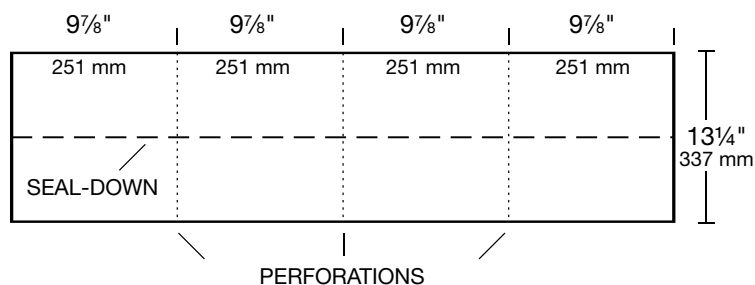
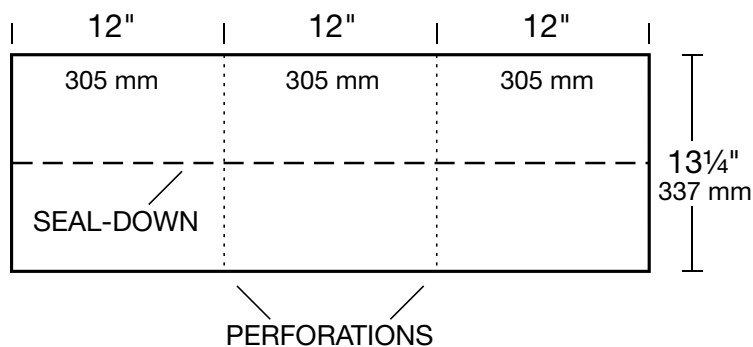

Figure 2 - 10" RidgeFlex® Hip and Ridge Shingle
Figure 3 - 12" RidgeFlex® Hip and Ridge Shingle
Prepare for application by separating each hip and ridge shingle at the perforations: The 10" RidgeFlex® shingle produces four (4) individual hip and ridge strips (**See Figure 2**), and the 12" RidgeFlex® shingle produces three (3) (**See Figure 3**). Note the presence of seal-down strips.